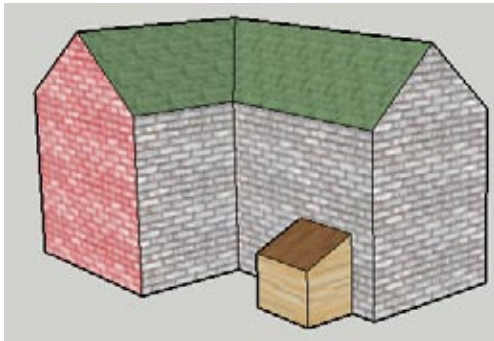

Figure 6-2
Consider the house model in Figure 6-2, which has a small shed connected to one wall. The goal is to move the shed from its current wall to the red brick wall, which is in a different plane.
1. Start with a house and shed model like the one in Figure 6-2. You can create your model from scratch, or download my House with Shed model from the 3D Warehouse.